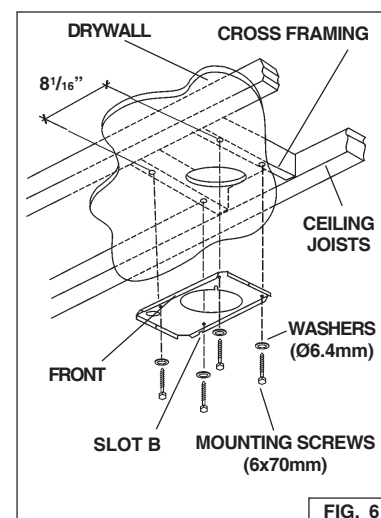

FIG. 6
3. Secure the support frame bracket to joists and cross framing with four screws provided (6x70mm) and four washers (D. 6.4mm). Make sure screws are driven into center of joists and framing for maximum strength. Be careful, because the position of the bracket determines the final position of the apparatus: the side with the slot B corresponds to the side opposite the controls. Fig. 6.